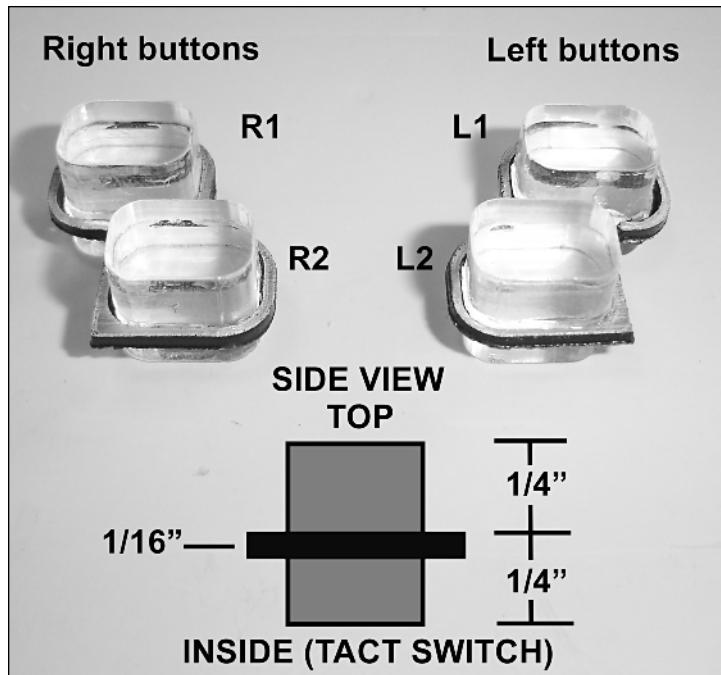

FIGURE 14-7: The shoulder buttons, with handy cross-section drawing.
2. Next, glue the 1/2"-high portions into the *shoulder button flanges*, as seen in Figure 14-7. The 1/16" shoulder button flange should sit flush with the top of the lower 1/4" shoulder button piece. If it's too high, the shoulder buttons may get stuck on.